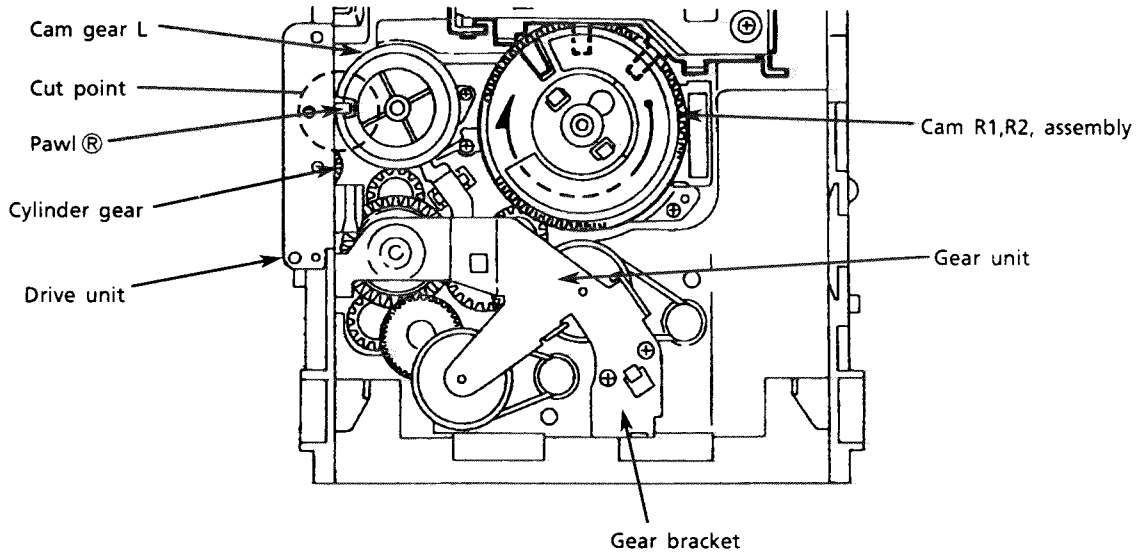

Fig. 41
[NOTE] Set the drive unit's pawl ⑧ so that it is positioned as shown in Fig. 41.